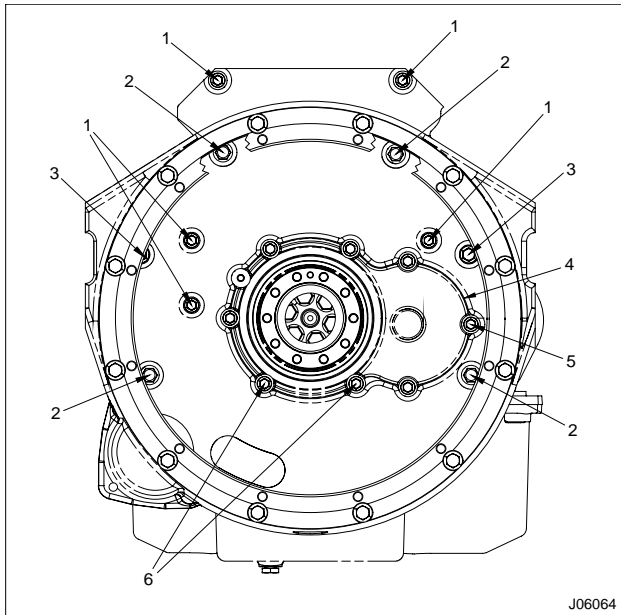

Figure 593 Rear cover bolt arrangement (stripped chassis)
1. Stripped Chassis – Remove necessary rear cover mounting bolts. Refer to (Figure 593) for rear cover bolt pattern.